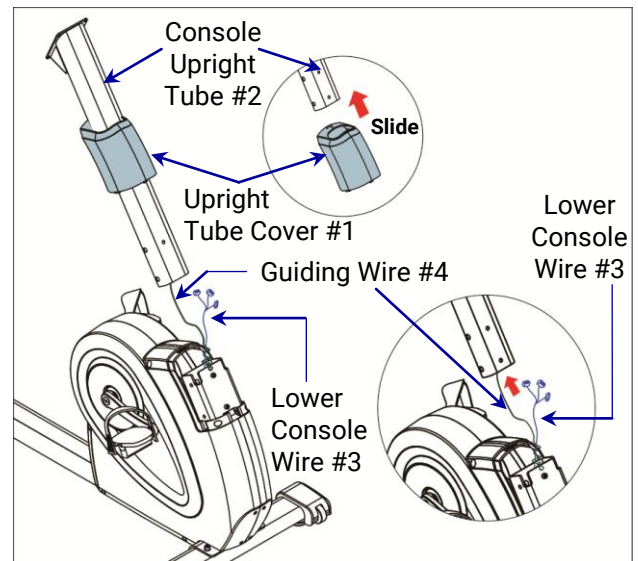

Fig 2.5-4A
- 1) Slide the **Upright Tube Cover #1** to the **Console Upright Tube #2**. (Fig2.5-4A)
- 2) Thread the **Lower Console Wire #3** on the **Guiding Wire #4** and through the **Console Upright Tube #2**. (Fig2.5-4A)